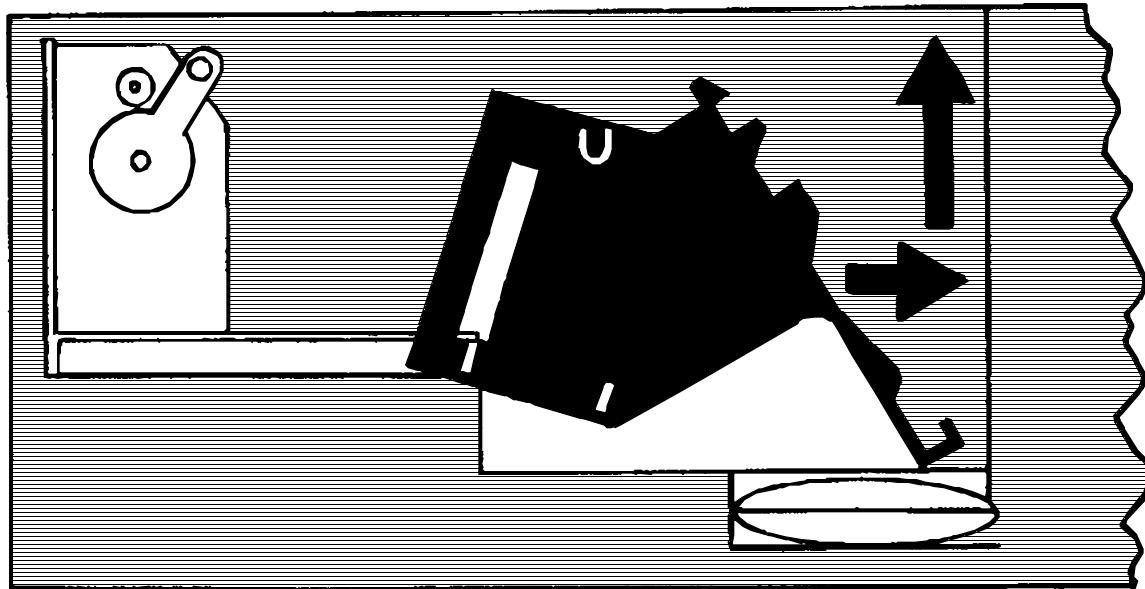

Figure 4-26 Sliding Mirror Up
- 17.2 Slide Mirror up and out. (Fig. 4-26)